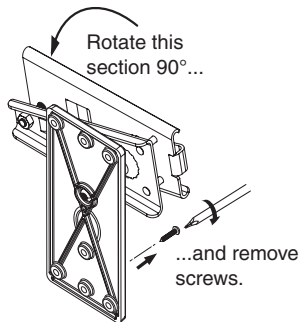

Figure 3 — Remove the old V-Lock Assembly
4. Rotate the stage (V-lock groove) 90 degrees to the wall plate (see figure 3), to access the screws in the wall plate.
6. Remove a new V-Lock™ assembly from its box, loosen the hex cap screw and rotate the front section approximately 90 degrees to the mounting plate, (see figure 3). Lightly tighten the hex cap screw to temporarily lock it in position, allowing access to the mounting holes in the wall plate.